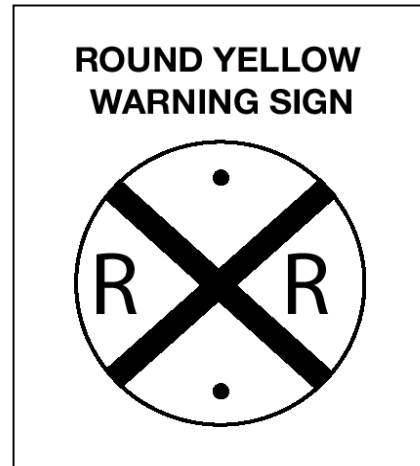

Figure 2.16
**Pavement Markings.** Pavement markings mean the same as the advance warning sign. They consist of an “X” with the letters “RR” and a no-passing marking on two-lane roads. See Figure 2.16.